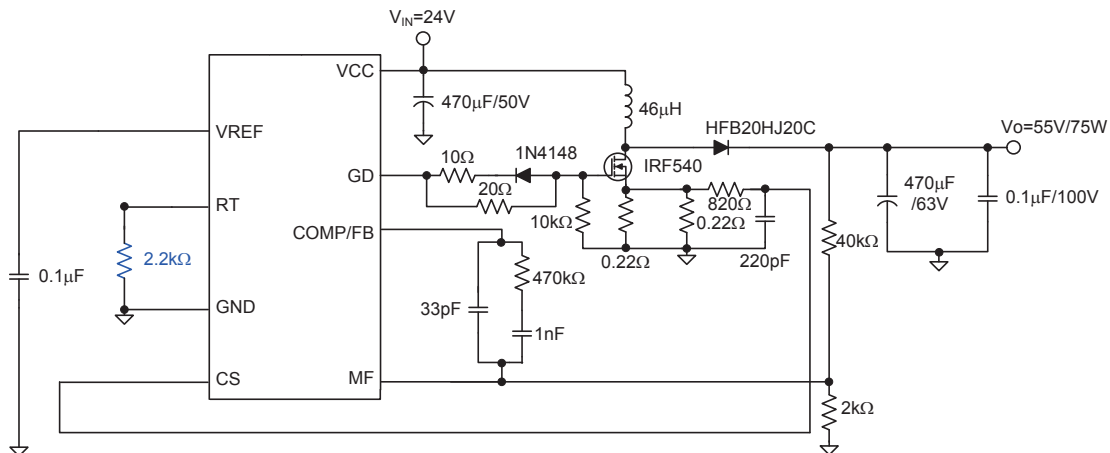

Figure 8. Constant Voltage Boost Application (DC-DC Boost)
A Constant Voltage (CV) Boost application circuit is shown in Figure 8. This circuit can be used with DC inputs of 16~24V and provides a DC output of 55V \pm 5% with 75W output power. The output power level can be changed by choosing a suitable inductor value and power MOSFET, while the output voltage can be changed by choosing a suitable feedback resistor ratio.